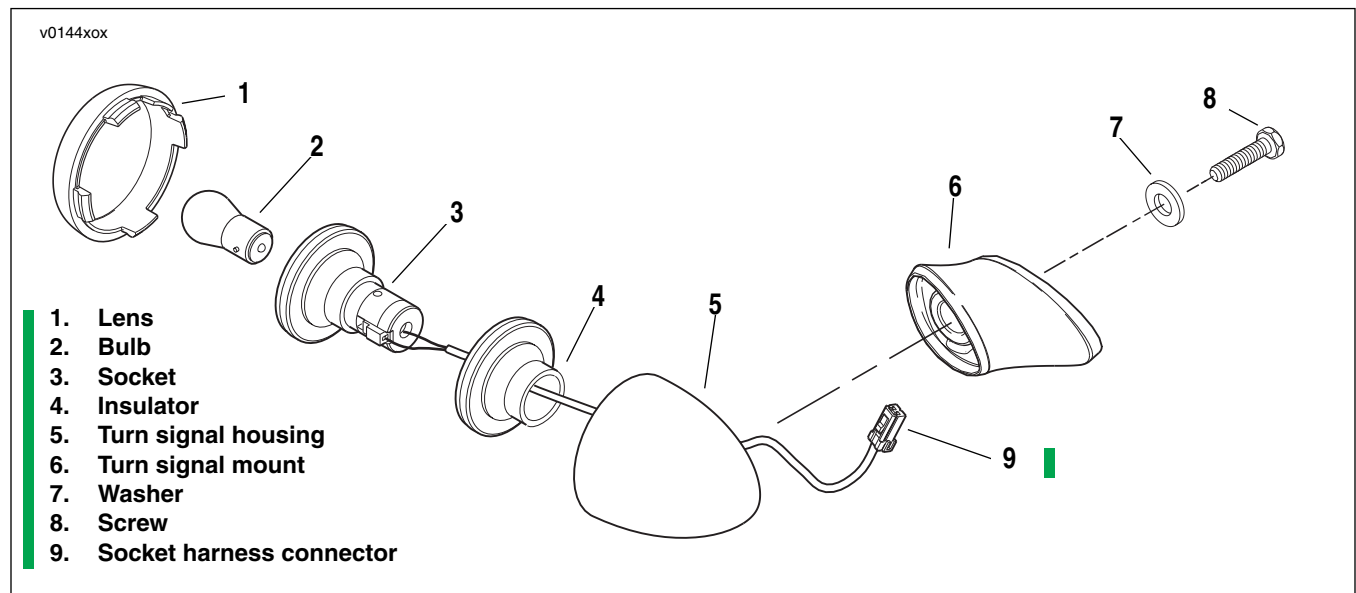

Figure 8-3. Rear Turn Signal Assembly
3. See Figure 8-3. Disconnect socket harness connector from main wiring harness on motorcycle.
4. Support turn signal assembly and remove screw (8) and washer (7).